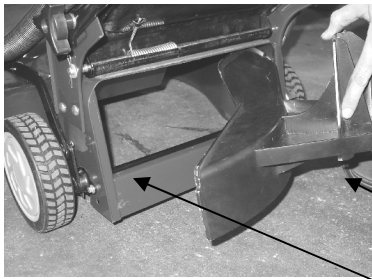

Figure 6. Mulch plug installation (A)
- Insert the long right hand side of the mulch plug first into the rear chute of the mower. Refer to figure 6.
- Guide the mulch plug out by rotating the shorter left hand side to the right and then guiding the longer right hand section until clear of the mower. Refer to figure 6.